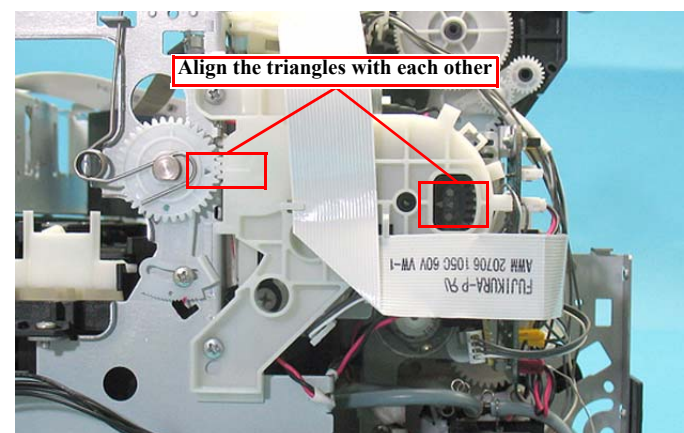

Figure 5-23. PG Position at PG Adjustment
1. Check that the APG Assy and the carriage are in the PG-position. (Fig. 5-23)